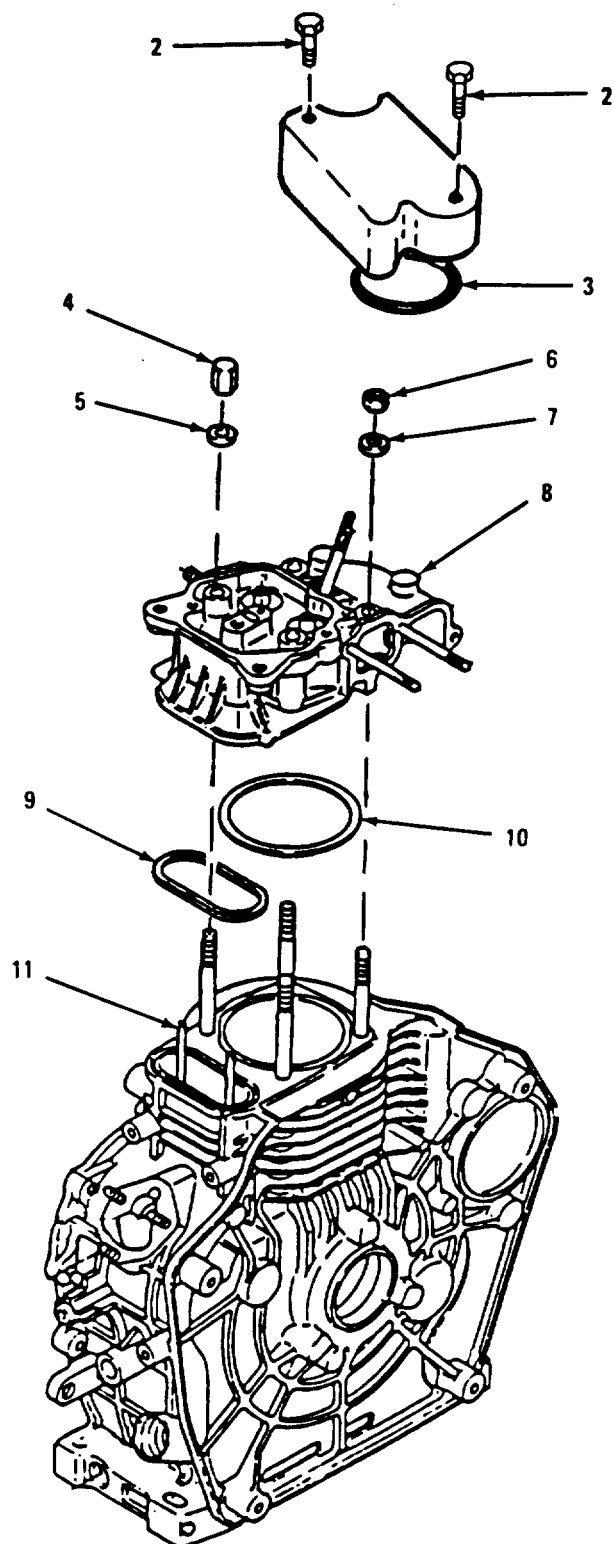

Figure 6-1. Removing Cylinder Head
a. Removal. (Refer to Figure 6-1).
- (1) Remove two bolts (1) and remove cylinder head cover (2) and gasket (3).
- (2) Remove two cap nuts (4) and washers (5) from cylinder head studs.
- (3) Remove two cylinder head nuts (6) and cylinder head washers (7) from cylinder head studs.
- (4) Remove cylinder head assembly (8) by lifting straight up off the four cylinder head studs.
- (5) Remove and discard push rod O-ring (9) and cylinder head gasket (10).
- (6) Remove push rods (11).
(Refer to Figure 6-1)